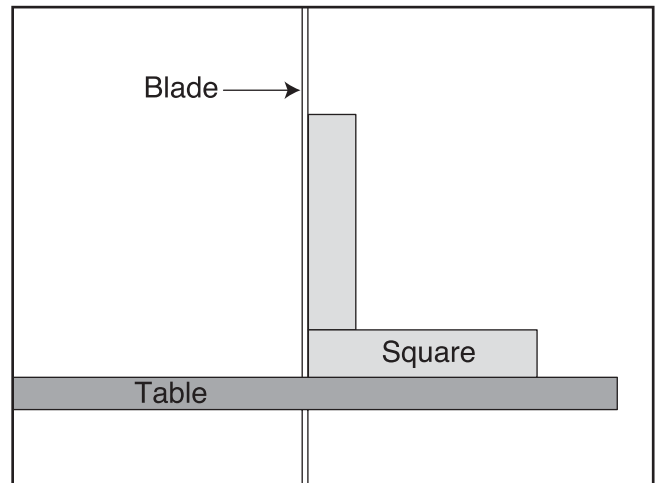

Figure 16. Squaring table to blade.
4. Raise the guide post and place a machinist's square on the table next to the side of the blade as illustrated in **Figure 16**. Tilt the table until the table rests at 90° to the blade, then secure with the table tilt knobs.